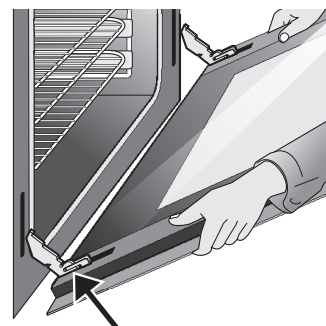

Figure 39: Remove door position
4. Pull the bottom of the door toward you while rotating the top of the door toward the appliance to completely disengage the hinge levers (Figure 39).
1. Firmly grasp both sides of oven door along the door sides. Do not use the oven door handle (Figure 39).
2. Hold the oven door at the same angle as the removal position. Carefully insert the hinge levers into the oven frame until you feel the hinge levers are seated into the hinge notches. The hinge arms must be fully seated into the hinge notches before the oven door can be fully opened. (Figure 39).